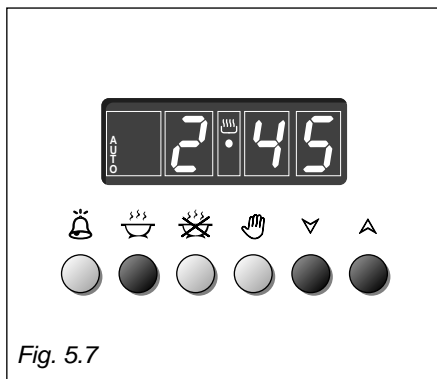

Fig. 5.7
1. Set the length of the cooking time by pushing the  button and the  button to advance, or  to go backwards (Fig. 5.7).